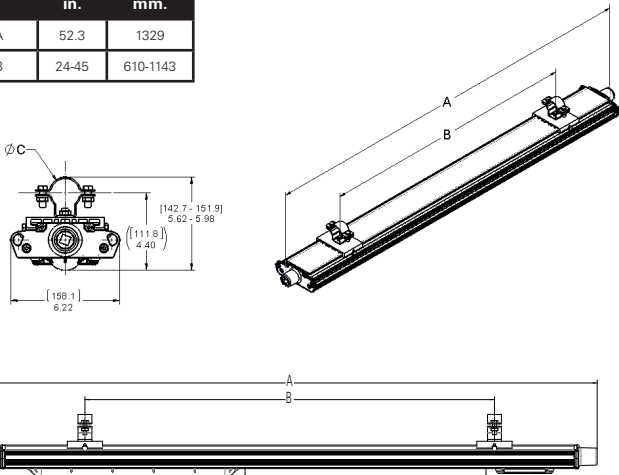

Figure 8. PM KIT - Pole Mount Installation
3. Pole mount brackets may be spaced as required; it is recommended to keep them at least 12" (305mm) apart (see Figure 8).
4. Slide the two (2) pole mount brackets onto the fixture, engaging the flange on the top of the fixture.